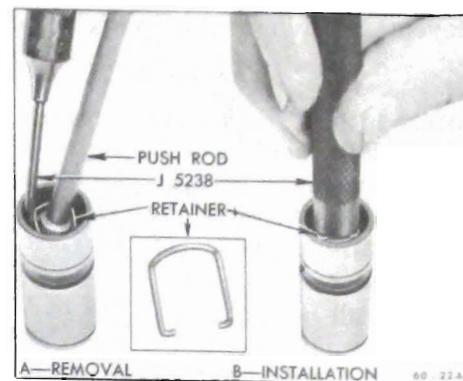

Figure 60-108 - Plunger Retainer
8. Disassemble each valve lifter by using a push rod to hold down the push rod seat while removing the plunger retainer from the lifter body using Retainer Remover J-5238. See Figure 60-108. View A.